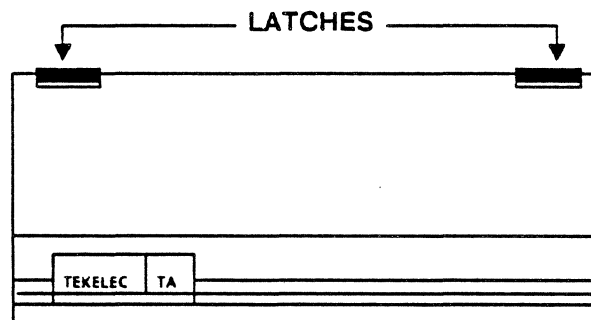

Figure 1.2: Chameleon 32 (Front View--Closed)
6. Open the front of the Chameleon 32 by pressing down on the two latches (Figure 1.2), and then carefully lowering the keyboard.